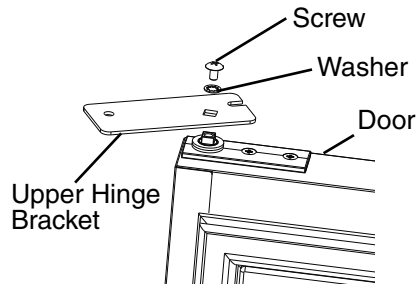

**Fig. 6**
- 5) Remove the lower hinge bracket. See Fig. 6. Be sure to leave the thrust washer in place.